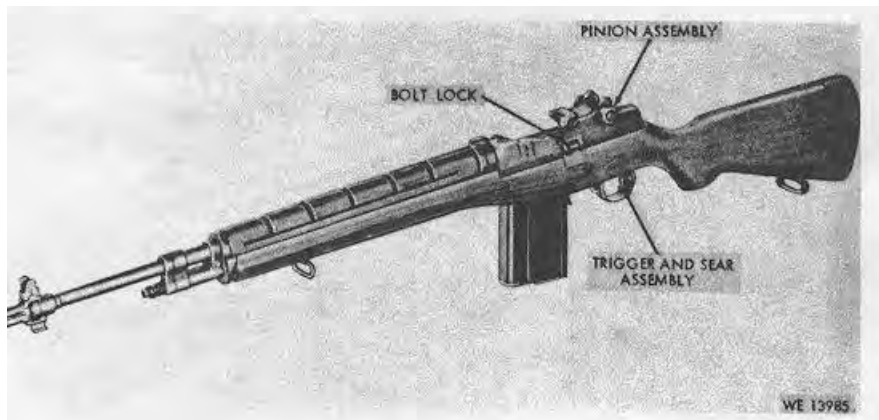

Figure 1-1. 7.62-MM Rifle M14-left front view.
This manual contains information and instructions for the operator responsible for performing maintenance on 7.62-MM Rifle, M14, M14A1 and Rifle Bipod, M2, (figs. 1-1 through 1-10) as allocated by the Maintenance Allocation Chart (MAC).
a. The 7.62-MM Rifle, M14 or M14A1 (figs. 1-1 through 1-9) is a lightweight, air-cooled, gas operated, magazine fed, shoulder weapon, used primarily for semiautomatic or full automatic fire.
The Rifle M14A1 (figs. 1-8 and 1-9) differs from the Rifle M14 (figs. 1-1 through 1-7) in that it has a cushioned type butt plate to reduce the recoil force, a modified in-line pistol grip-type stock assembly with a folding shoulder rest, hand grip assembly, selector, and a stabilizer assembly. The stabilizer provides for muzzle compensation and reduces recoil action. The stabilizer fits over the flash suppressor and locks to the bayonet lug.